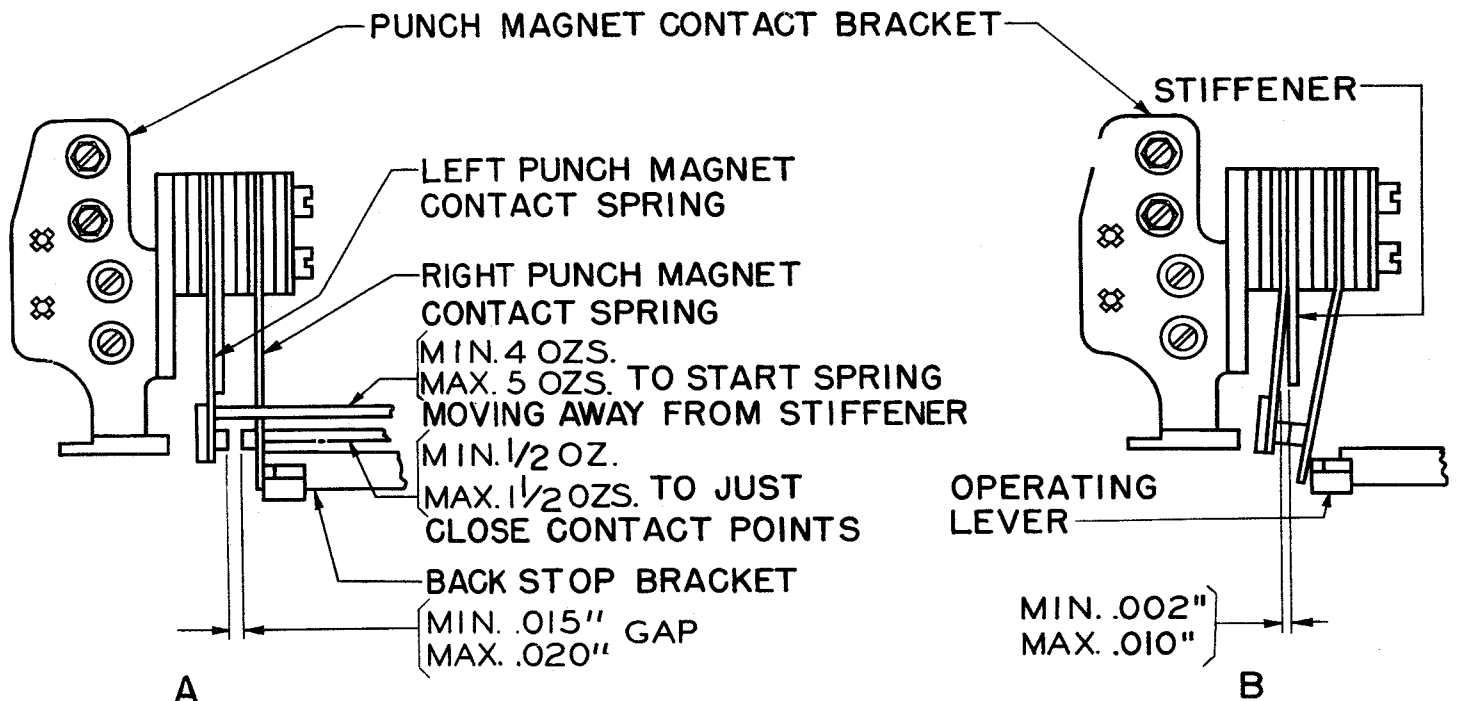

Figure 54
7.02 Punch-magnet Contact Bracket should be so positioned that there is a clearance of minimum 0.002 inch, maximum 0.010 inch between the left-hand contact spring and the end of its stiffener when the keylever is depressed which imparts the least movement to the punch-contact operating lever. See Figure 54 for identification of parts.